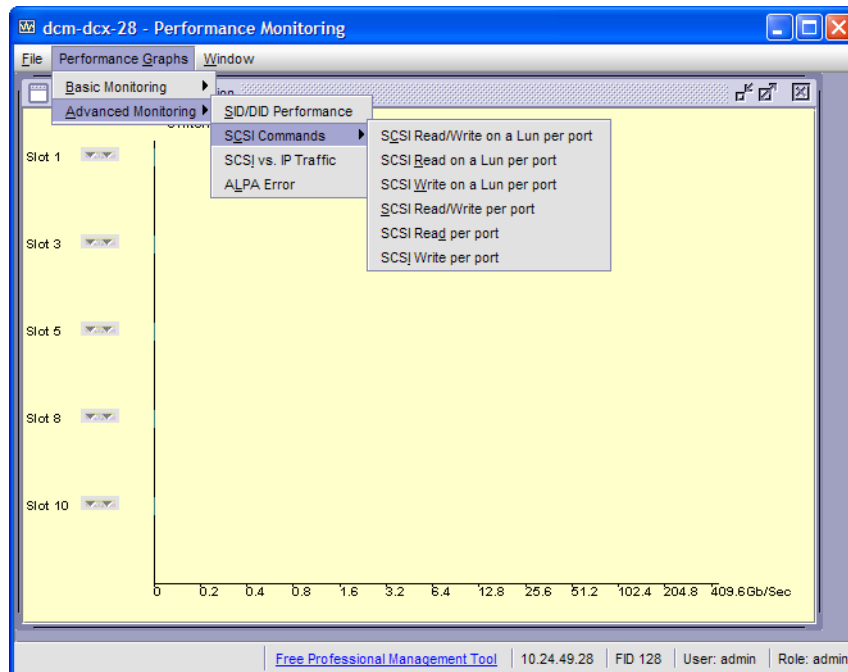

FIGURE 21 Accessing performance graphs
- For the Brocade DCX 8510-8, DCX 8510-4, and the DCX and DCX-4S enterprise-class platforms, slot numbers are displayed with expansion arrows next to them, as shown in Figure 21 on page 93. Click the arrows to expand and contract the list of ports per slot.
Figure 21 shows how to access the list of Advanced Performance Monitoring graphs using Web Tools with the EGM license. This example displays the graphs available in the Performance Monitor window with the Advanced Performance Monitoring license installed. Note that the slot number is identified.